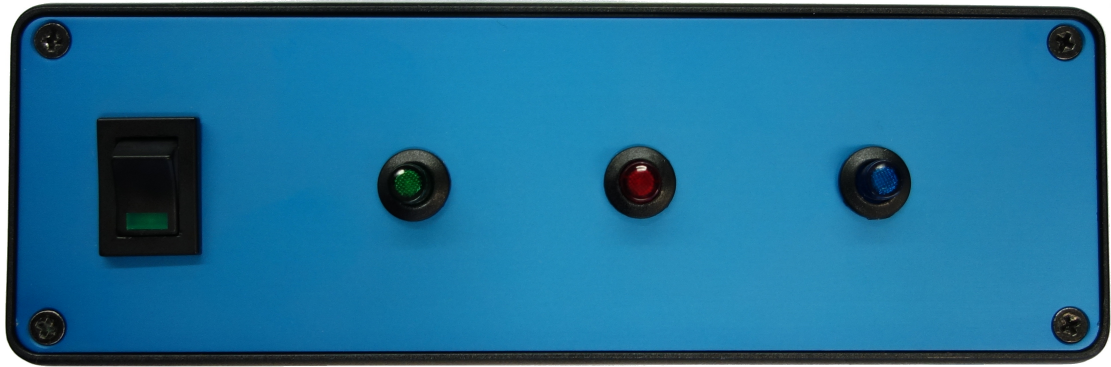

Figure 1.2: Remote case front view
2. Loosen the four screws at the front of the case (see figure 1.2).